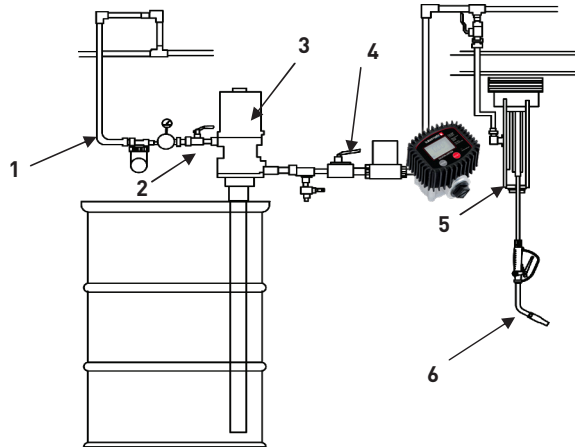

Fig. 2
2. Pump: Use a ground wire and clamp as the Fig.2. Get rid of the grounding screw, put the end of the grounding wire into the grounding hole. Lock the bolt to the pump safety.